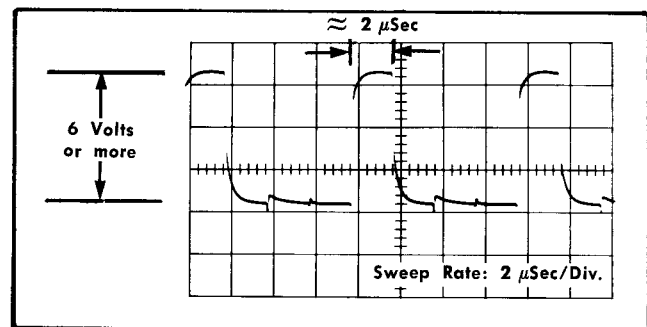

Fig. 6-11. Type 3A74 Ring Counter sync pulse as displayed on the test oscilloscope crt. Vertical deflection factor: 2 volts/div.
- d. Check Ring Counter sync pulse. The waveform should consist of positive-going pulses which have a duration of about 2 μ sec and an amplitude of about 6 volts or more (see Fig. 6-11).